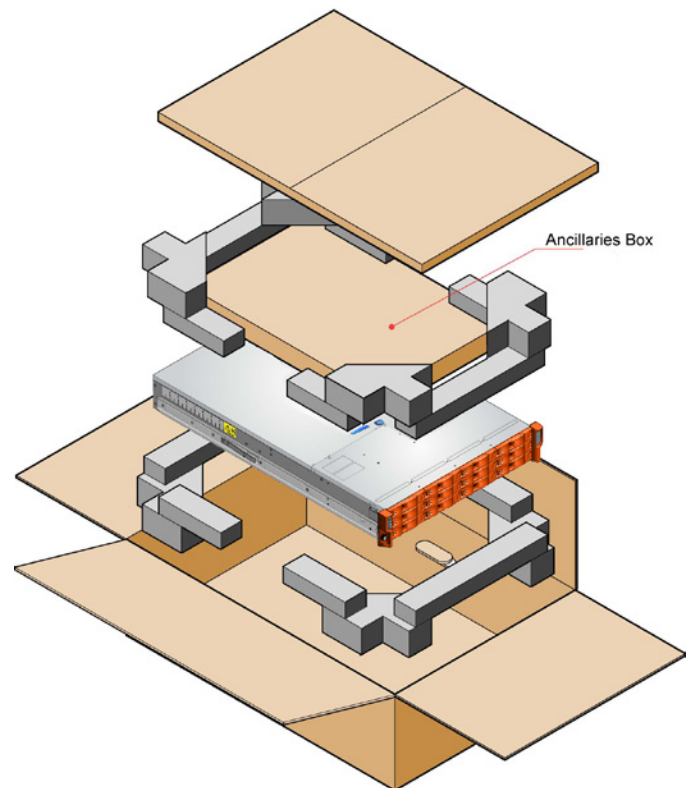

Fig. 17 - Unpacking the System
2. Unpack the system (see Fig. 17).